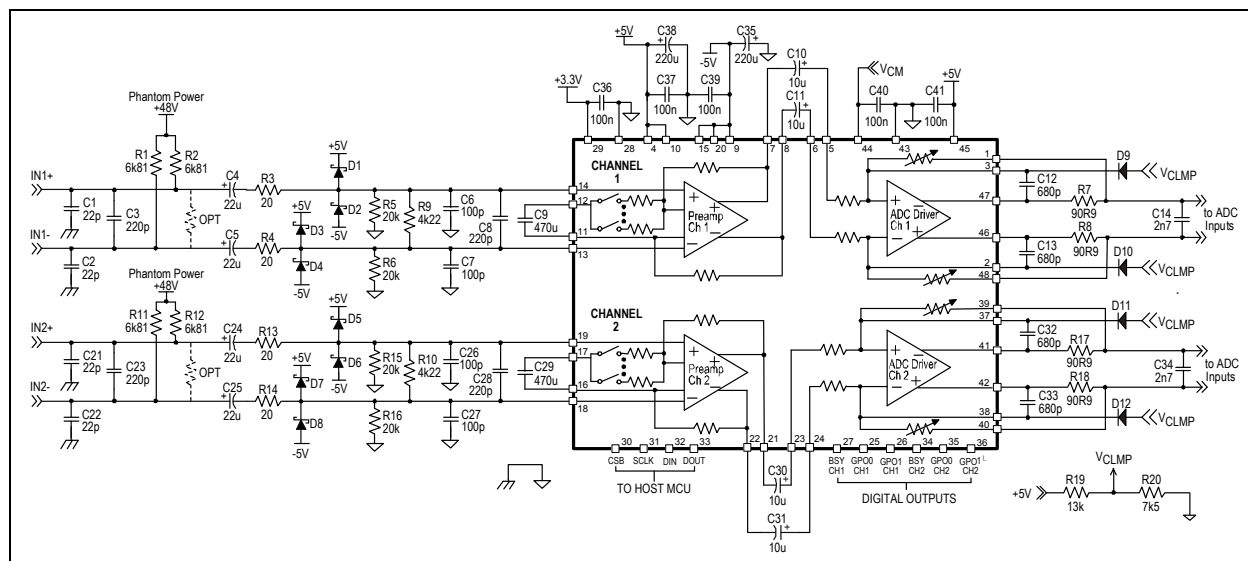

Figure 17. A typical bipolar-supply THAT 626x application circuit. See also Figure 18 for an alternative ADC anti-aliasing filter configuration.
Figure 17 is a typical 626x application circuit utilizing bipolar power supply rails. In this section, we discuss channel 1 in detail. However, all of the comments apply to the analogous components in channel 2.
The coupling capacitor (C9 in Figure 17, or CG in Figure 12) limits DC gain in the preamplifier to unity, regardless of the differential audio gain setting. The on-chip gain-setting  $R_G$  resistors in series with these capacitors vary with gain, which causes the cutoff frequency of the resulting high-pass filter also to vary with gain. This filter reaches its highest frequency at the minimum RG (the highest gain), which is about 45  $\Omega$  (see Table 2). Hence, the highest cut-off frequency, with the 470 $\mu F$  value shown in Figure 17 is  $\sim 7.5$  Hz. Larger values will scale this frequency down proportionately. Since these capacitors, which are often physically large and stick up from the PCB, are effectively in series with the preamplifiers' inputs, they can serve as antennae to collect interfering signals. Take care to minimize possible sources of interference nearby that may be picked up by these large coupling capacitors.
The 626x ADC driver inputs (pins DI+CHx and DI-CHx) are capable of accommodating the full differential and common-mode signal range at the pre-amp outputs. However, the ADC driver’s fully-differential opamp inputs (brought out on pins CFB+CHx and CFB-CHx) have a common-mode input range of 1V to +5V. If this common-mode range is exceeded in the negative direction, the opamp’s inputs and outputs can get stuck close to ground. Diodes D9 and D10 in Figure 17 clamp the minimum voltage at the ADC driver opamp’s inputs to one diode drop below the voltage  $V_{CLMP}$ . For  $V_{CLMP}$  nominally +1.8V, the diodes ensure that the opamp’s inputs do not go below 1V above ground. This ensures that the ADC driver will accept the full 3.8 $V_P$  common-mode signal swing that can be present at the preamp outputs.
+5V) and ground. In Figure 17, this divider is made up of 13 k $\Omega$  and 7.5 k $\Omega$  resistors R19 and R20.
Phantom power is required for many condenser microphones. It is connected to the preamp inputs through resistors, R1 and R2, per +48V phantom power standards. THAT recommends the protection circuits as shown in Figure 17 when phantom power is included. R3 and R4 are to limit the current that flows through the preamp inputs during phantom power faults that can occur if one or both of the inputs are shorted to ground while phantom power is on. We recommend that R3 and R4 should be at least 20  $\Omega$  to limit destructive currents to under  $\sim 2.5$ A. (Higher values provide more protection by further limiting current flow, but their additional source impedance adds noise.) The protection resistors used should be able to handle the short-term inrush current; many small surface-mount types cannot. With the values shown for C4 and C5, we recommend at least  $\frac{1}{4}$  W resistors.
Figure 17) when C4 and C5 are as shown at 22  $\mu$ F. The large 220  $\mu$ F capacitor absorbs the charge dumped by C4 and/or C5, and keeps the  $-5$  V rail from being pulled excessively negative, which could damage the 626x. If larger values are employed for C4 and C5, then C35 and C38 should be increased proportionately.
The most common anti-aliasing filter configuration for driving audio ADCs is shown in Figure 17. Capacitors C12 ~ C14, resistors R7 and R8, and the internal feedback resistors of the ADC driver form a second-order lowpass filter. Since R7 and R8 are inside the amplifier's feedback loop, the closed-loop output impedance remains quite low inside the audio band, but they still serve to isolate the ADC driver's output from the high-frequency charging currents for the typical ADC's switched-capacitor inputs. C14 should be placed physically close to the ADC input pins.
As noted above, in the 6261, the ADC driver's internal feedback resistors vary, which will have a small effect on the overall filter response. The frequency response for the  $-8$  dB case is  $-3$  dB at 560 kHz and  $-48$  dB at 6.144 MHz. The response of the  $-5$  dB case is  $-3$  dB at 419 kHz and  $-51$  dB at 6.144 MHz. As with the filter shown in Figure 17, for
As shown in Figure 17, THAT recommends a 100nF capacitor to ground on all the supply rails plus the VCM reference (pin 44) for high frequency filtering. For best effectiveness, place each 100nF capacitor close to its associated pin in the PCB layout. For rails with multiple pins, e.g.,  $V_{A-}$  and  $V_{A+}$ , only a single 100nF capacitor is needed per supply; connect the capacitors near pins 9 and 10.
- Delete clamp diodes D9 and D10 and the  $V_{CLMP}$  voltage divider R19 and R20 (from Figure 17) as these are not required for unipolar operation.
Further, the DC level of the preamplifier output is one  $V_{BE}$  below +5V Filt (thus about +4.3 V), while the ADC driver input's DC level is at  $V_{CM}$  (nominally +3.1 V). Hence, the ac-coupling capacitors between the preamp and ADC driver stages (C10 and C11) are reversed in polarity from those in Figure 17. We recommend these capacitors be rated at least 3.3 V.
Because the ADC driver  $V_{cm}$  voltage is set to +3.1V for unipolar applications, the full common-mode swing output swing from the preamp cannot force the ADC driver opamp inputs below the minimum allowable level. Hence, diodes D9 and D10 (and the associated voltage divider) as in Figure 17 are not needed when the 626x is powered by unipolar supplies.